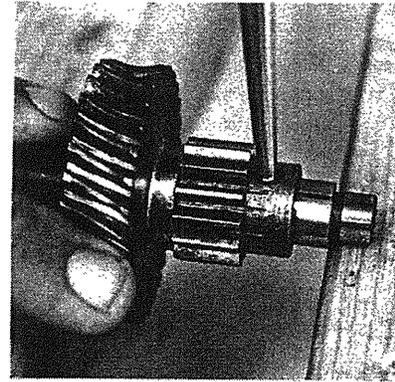

Fig. 3-19
- C. Remove spirol pin (Fig. 3-19).